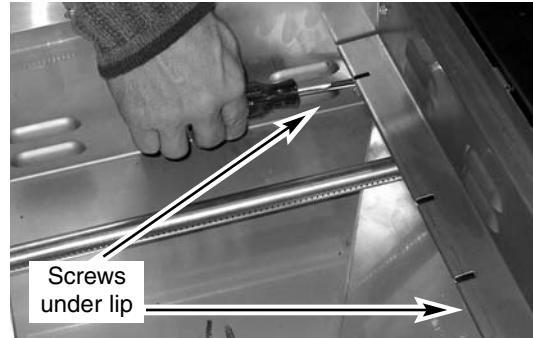

Fig 5
5. Remove the screws from the bottom of the heat shield, holding the front heat shield in place. The screws are located under the bottom lip of the shield (Fig. 5).
25. Reinstall the front heat shield (Fig. 5, 6, and 7).